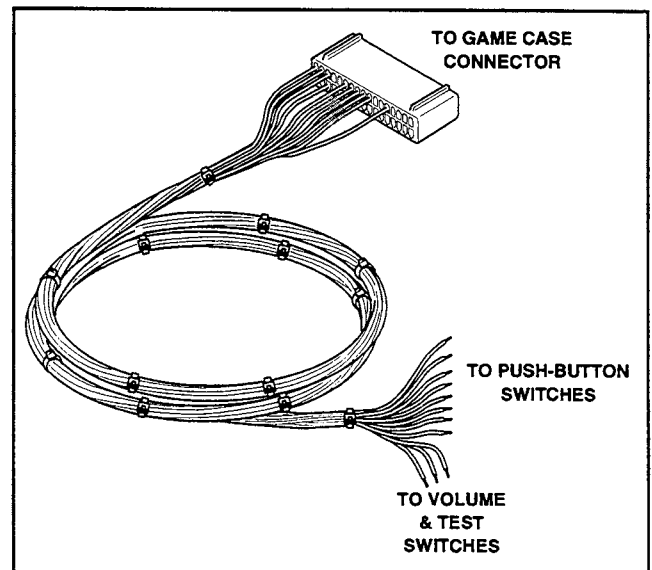

FIGURE 5
19. Connect the Player 1 and Player 2 buttons to the auxiliary cable harness connectors shown in Figure 5. Make the connections according to Table 2.